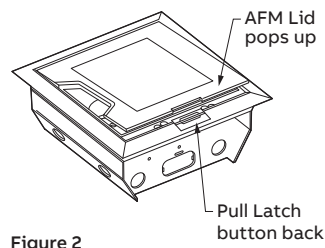

Figure 2
1. Pull Latch button back until Lid pops up. Lift and lay Lid to the side (see Figures 2 and 3).
1. Open and lift AFM Lid (see Figures 2 and 3).